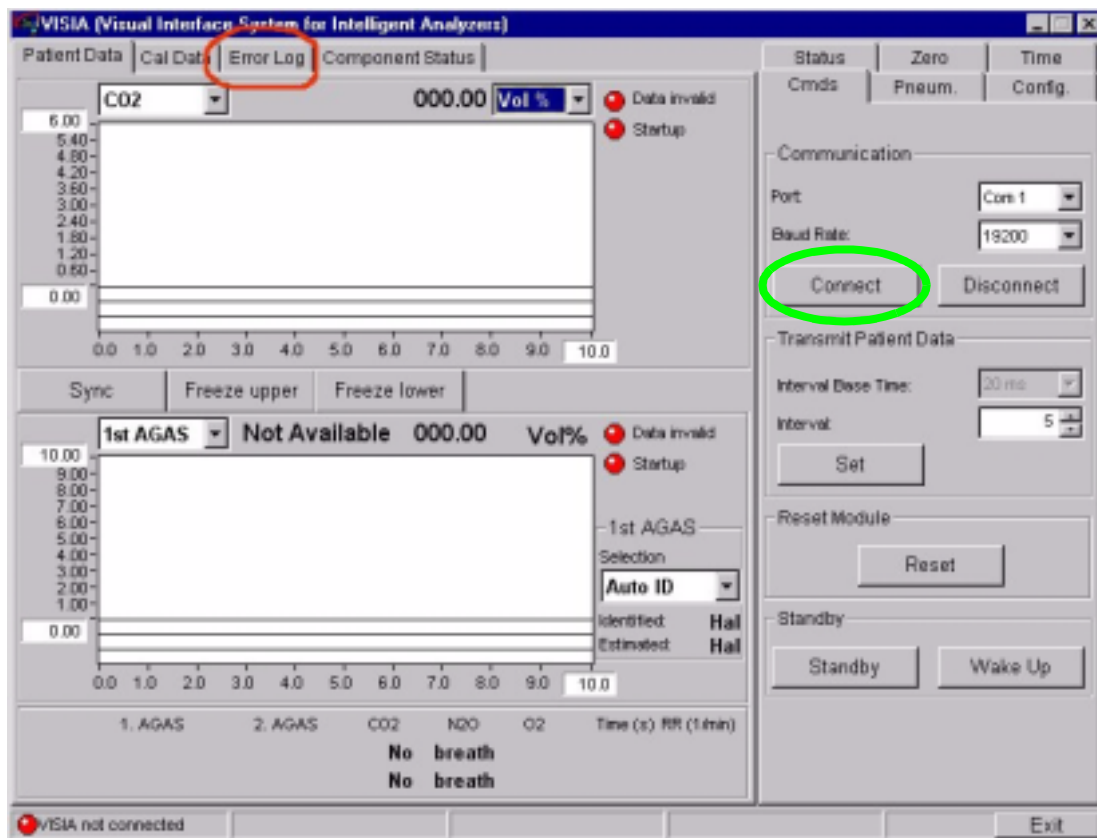

Fig.100: Start page of the VISIA program
The program automatically creates a connection to the Julian. If the connection needs to be created manually, press the "Connect" button (green marking). If communication between laptop and the IRIA is OK, a green lamp lights up and the message "VISIA connected" appears at the bottom left of the window (see Fig. 100:).
- Select the "Error Log" tab (see Fig. 100; red marking). The error log is read out automatically (see the following figure for an example of the log).